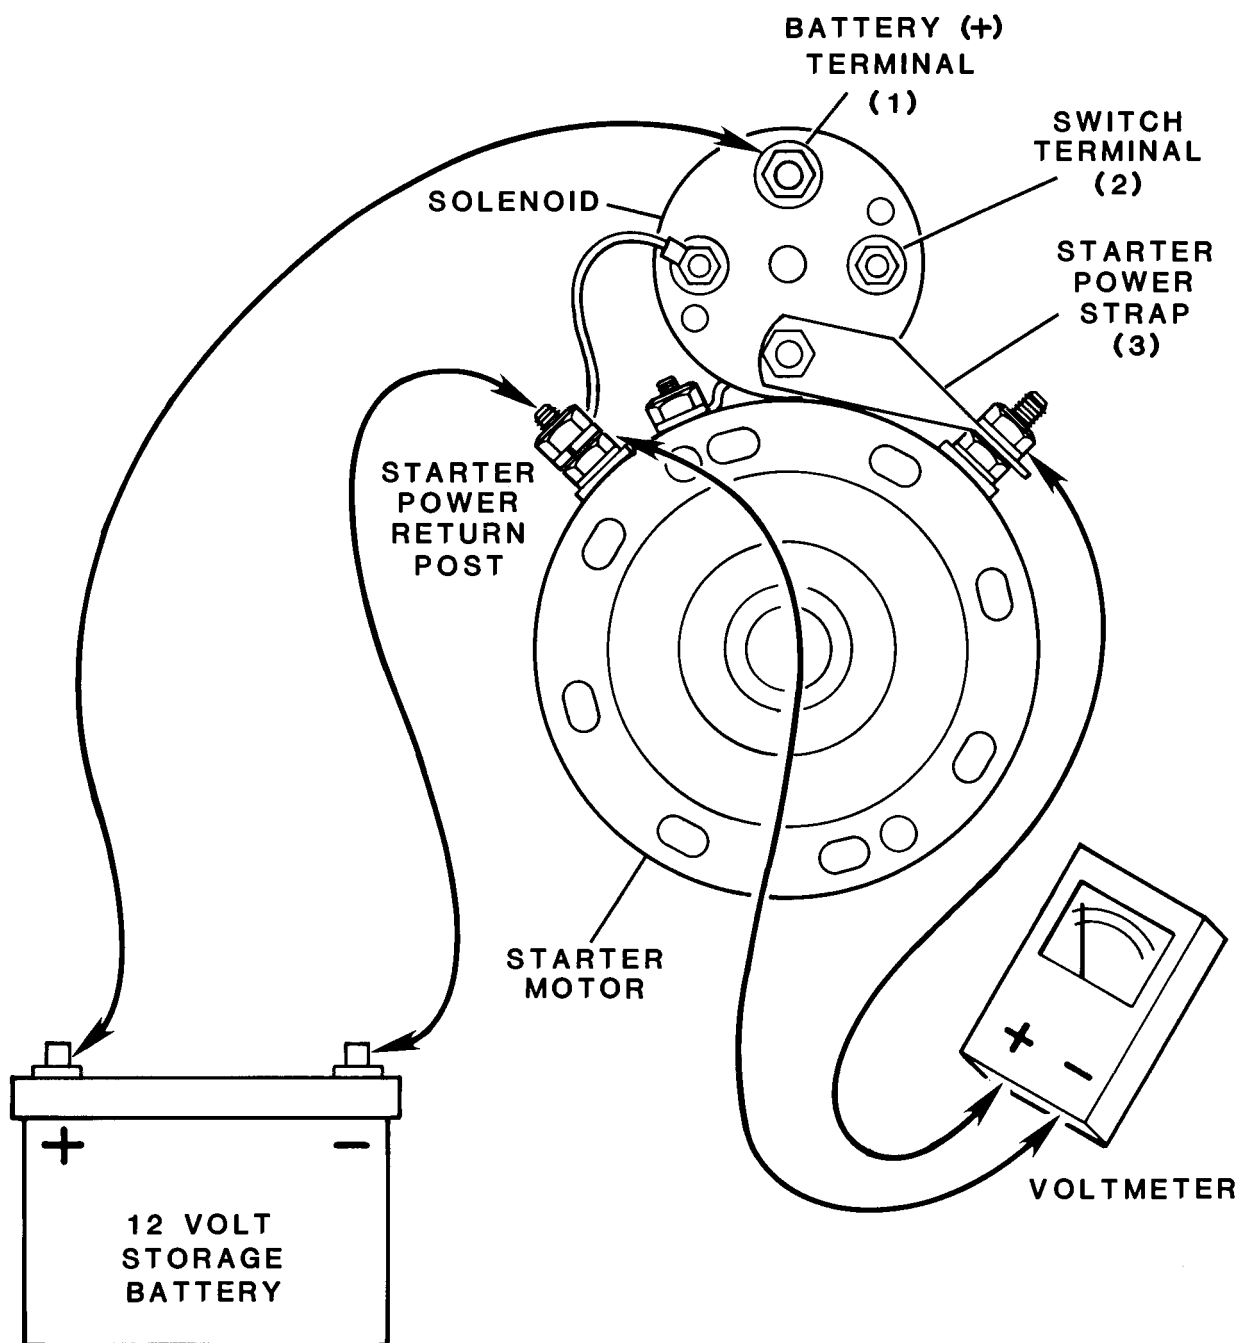

Figure 4-5. Starter Test Setup
(1) Remove starter in accordance with TM 5-6115-612-12, paragraph 4-32b.
(2) Secure starter in bench vise.
(3) Provide test setup as shown in figure 4-5.
(4) Connect starter as shown in figure 4-5. If starter motor energizes, disconnect battery and replace solenoid.